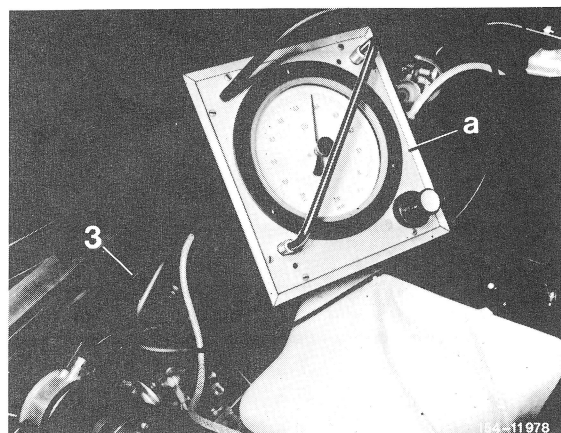

Fig. 3
3. Disconnect vacuum line (3, Figure 3) from throttle actuator (1) and connect to vacuum tester (a).